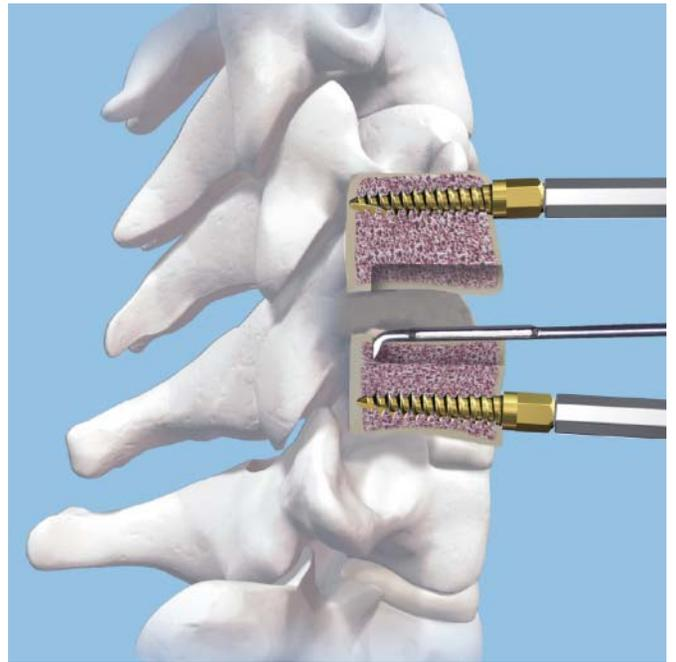

Figure 28
- Remove the guide and trial. Under fluoroscopic control, use the keel cut cleaner to verify the depth of the keel channels and to remove any bony debris from both the superior and inferior vertebral bodies (Figure 28). Irrigate the wound to ensure the disc space is clear of debris.
Remove the chisel and trial. Under fluoroscopic control, use the keel cut cleaner to verify the depth of the keel channels and to remove any bony debris from both the superior and inferior vertebral bodies (see Figure 28 on page 17). Irrigate the wound to ensure the disc space is clear of debris.